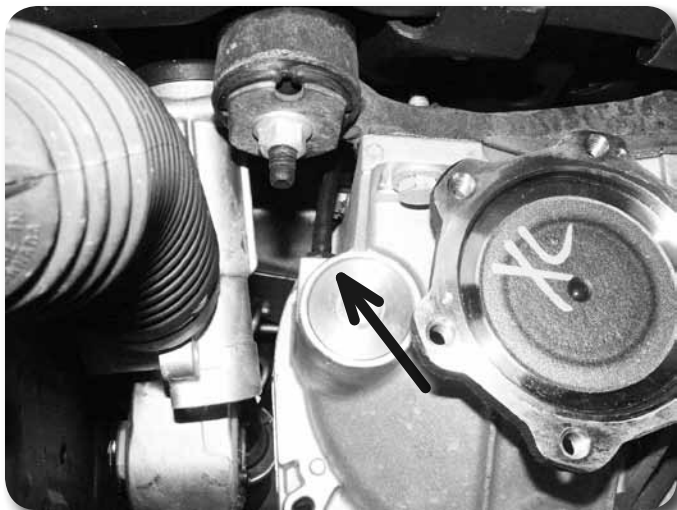

Figure 11
19. Disconnect the differential breather hose Figure 11.